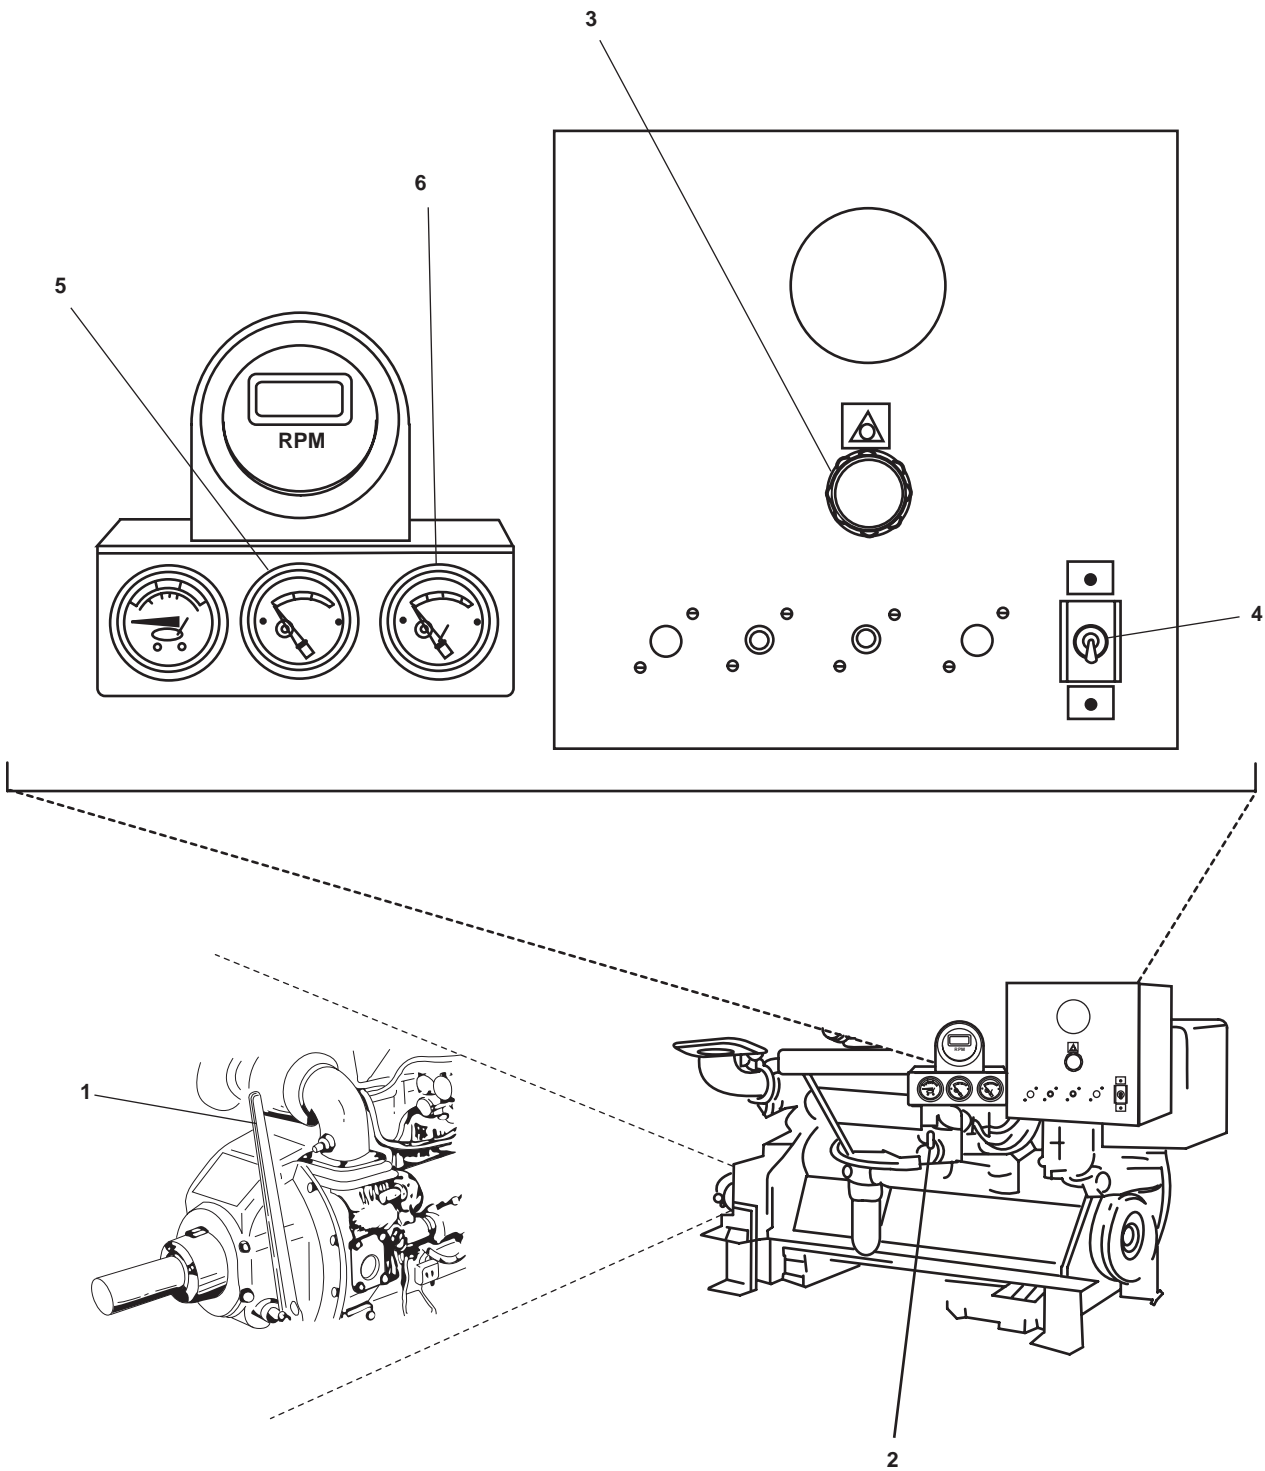

Figure 14. Pump Drive Engine
- b. Place the power take-off control lever in the disengaged (aft) position (figure 14, item 1).
- c. Move the mechanical governor control lever (figure 14, item 2) to the half engine speed position (approximately straight up).
- e. On the pump drive engine control panel, turn the start/stop pushbutton (figure 14, item 3) clockwise to release the pushbutton to the OUT position.
- f. Push the OFF-RUN-START toggle switch (figure 14, item 4) up to the START position to crank the engine. As soon as the engine starts, release the toggle switch. Verify that the toggle switch returns to the RUN position.
- g. Allow the engine to idle 3 to 5 minutes, or until the coolant temperature gauge (figure 14, item 5) begins to rise.
- a. Place the power take-off control lever (figure 14, item 1) in the engaged (forward) position.
- b. Check the engine gauges (figure 14, items 5 and 6) to ensure that the readings are in the green range.
- c. Move the mechanical governor control lever (figure 14, item 2) to the high idle (full load) position (aft). Verify that the pump drive engine is operating at approximately 1800 rpm.